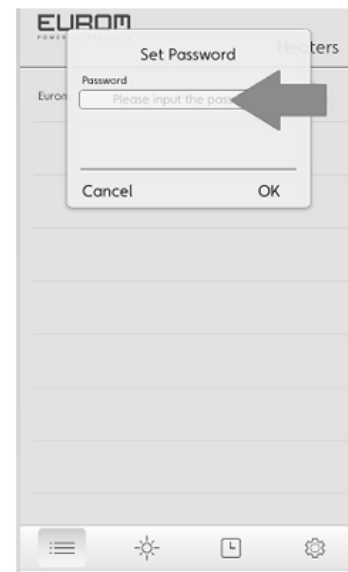

Figure 3
- When using the device for the first time, you will be asked to enter a password. The default password is 12345678 (Fig. 3). If the password is not accepted, you can reset the password by pressing the reset button for 5 Second